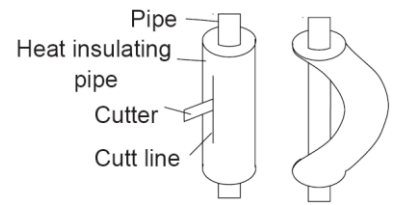

Figure 3-2-5
- (2) Do not bend the pipes in an angle more than 90°.
- (3) When pipes are repeatedly bent or stretched, the material will harden, making it difficult to bend or stretch them any more. Do not bend or stretch the pipes more than three times.
- (4) When bending the pipe, do not bend it as is. The pipe will be collapsed. In this case, cut the heat insulating pipe with a sharp cutter as shown in Figure 3-2-5, and bend it after exposing the pipe. After bending the pipe as you want, be sure to put the heat insulating pipe back on the pipe, and secure it with tape.